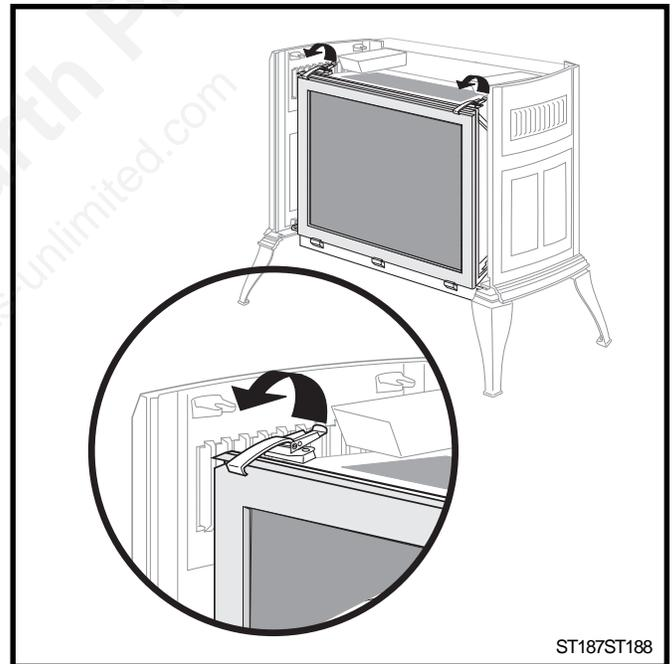

Fig. 9 Release the latches and swing the screen and frame away from the firebox.
3. **Remove the Screen Assembly.** Two compression latches hold the screen frame in place. (Fig. 9) Use a screwdriver to release each latch by gently prying the handle up and forward. Lift the screen frame assembly up off the front of the firebox and set it aside.